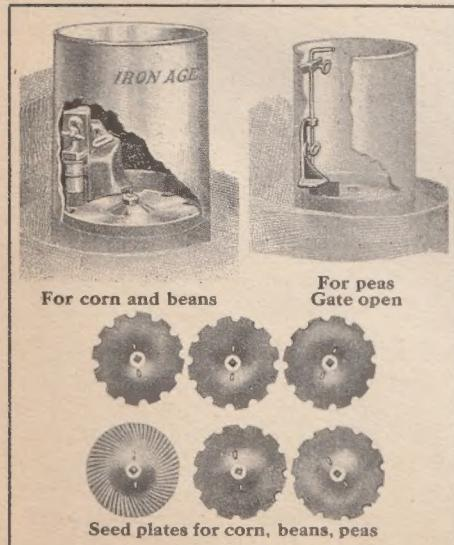
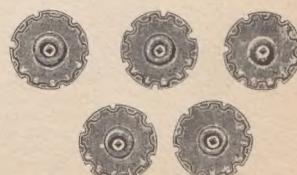

Fig. 267
Fig. 296
- No. 400RS —(No. 400R with seed attachment, Fig. 267, page 7)....
To Drop Seed Farther Apart use Fig. 296. The plates are the same as those furnished regularly except that alternate holes are plugged and seed can be dropped at 24, 28, 31, 34, 37, or 40 inches apart. They may be ordered in place of those shown in Fig. 267. Or, if wanted in addition to Fig. 267, they cost